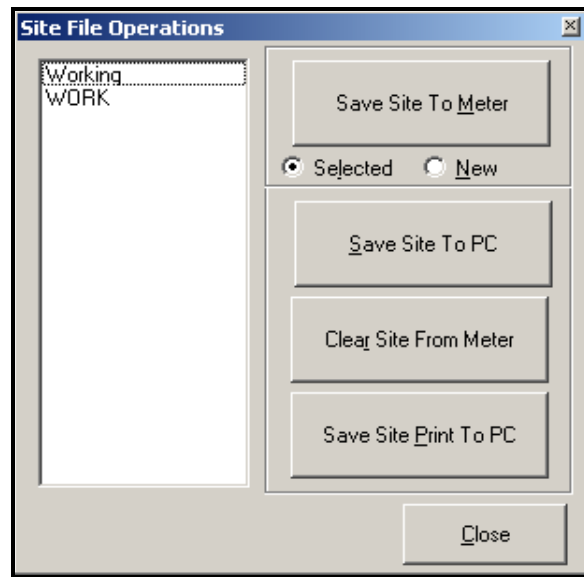

Figure C-17: Site File Operations Window
3. Click on the [Site Files] button. The *Site File Operations* window (shown in Figure C-17 below) opens.
1. Highlight the desired site in the left pane. (See Figure C-17 on the previous page.)